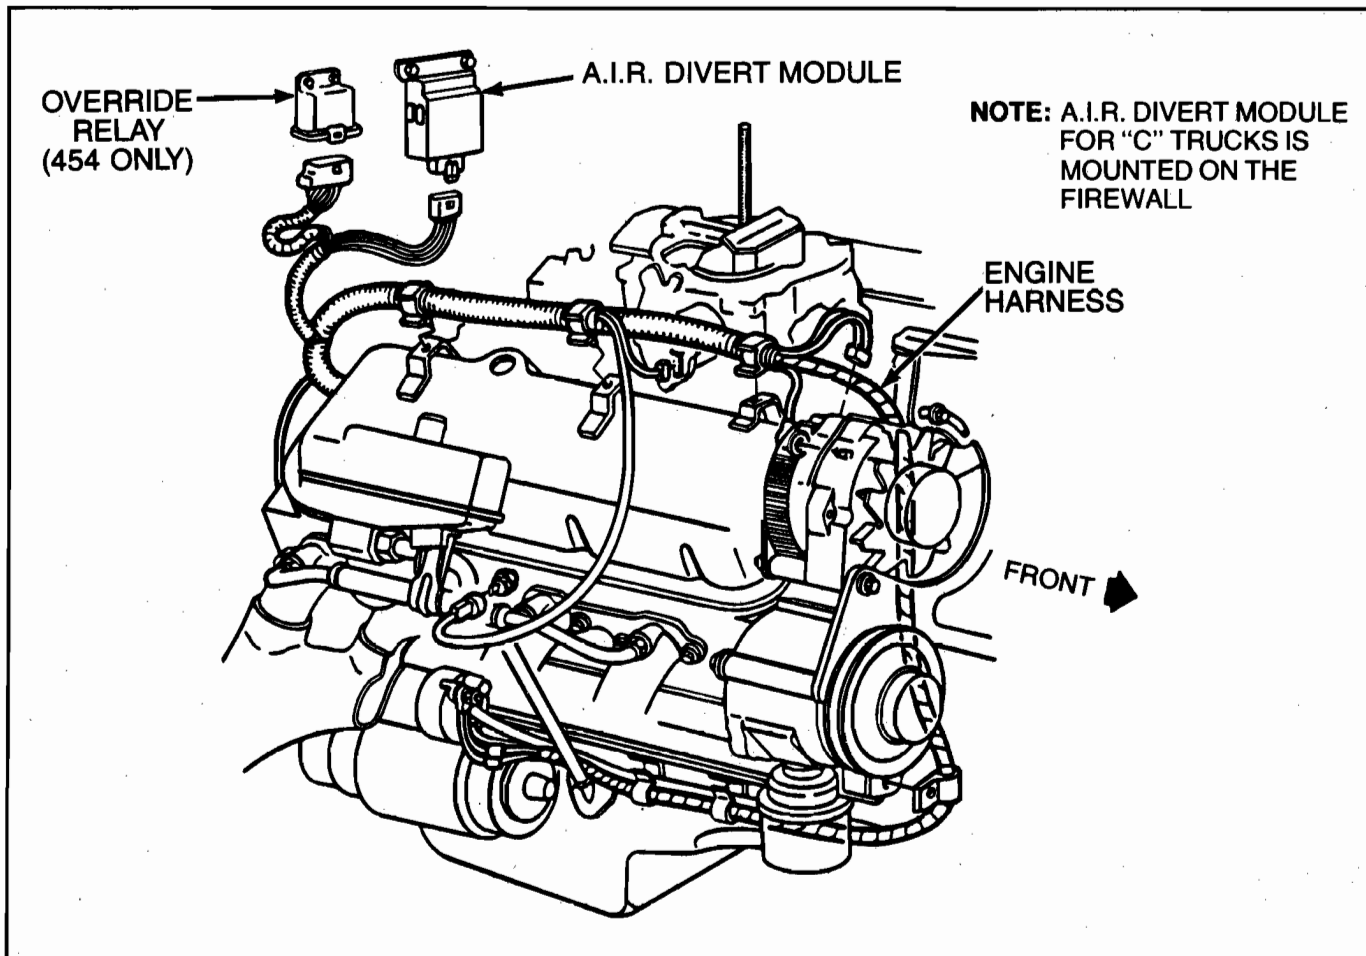

Figure A7-17-3 — H5D Override Relay
NOTE: 1985-1990 models equipped with the LE8 (454) and H5D have an override relay. (See Figure A7-17-3). This relay is necessary due to the lower cranking speed of the LE8 (454) engine. If the relay fails, the CEL will come on. If it becomes necessary to replace the relay or the module, use the part numbers listed in Figure A7-17-4.